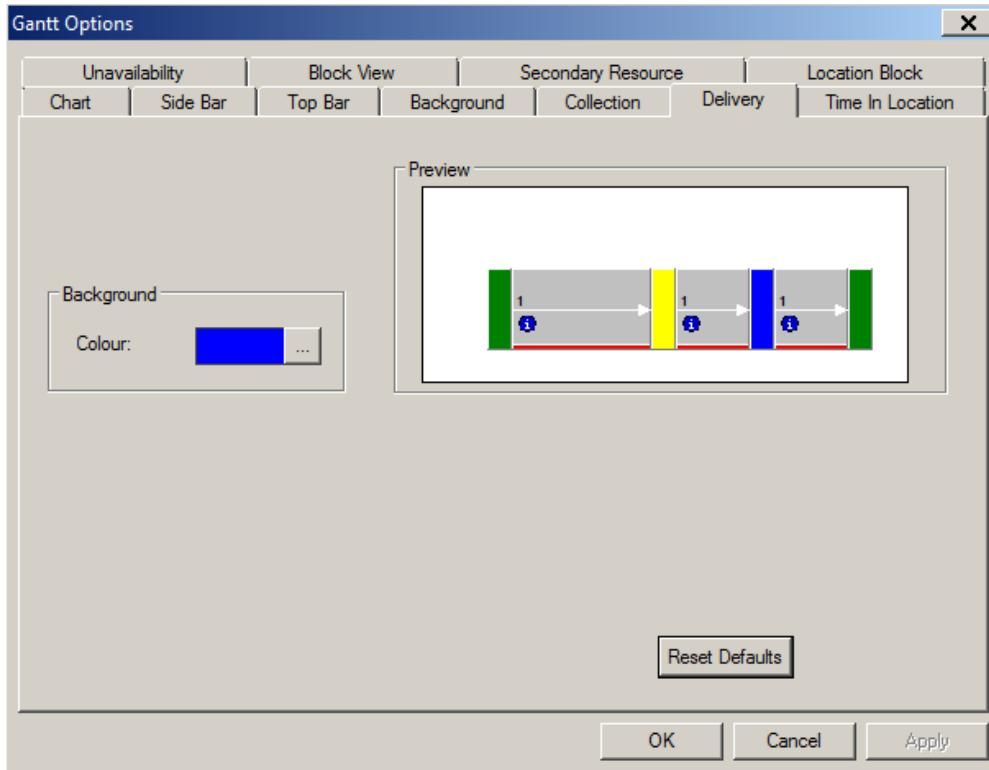

Figure 196
1. Click the **Delivery Tab** (Figure 196)